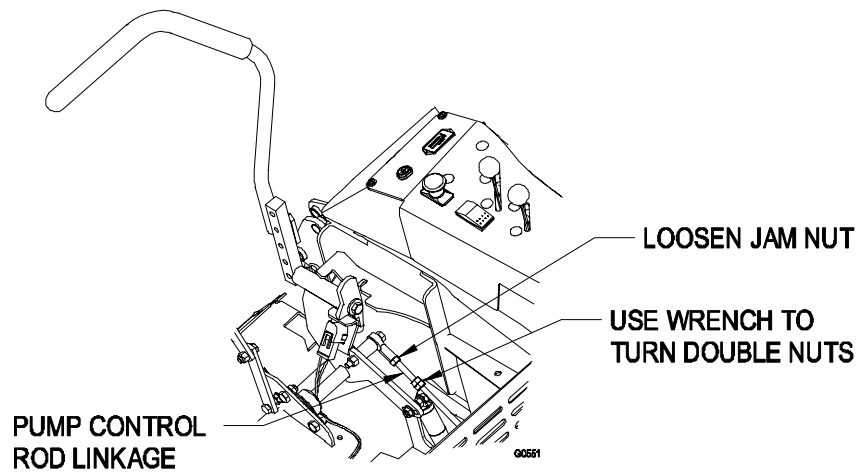

FIGURE 13
- f) To adjust each linkage, loosen the jam nut next the ball joint at the upper end of the linkage rod assembly. Then rotate the assembly using a wrench to turn the double nuts on the assembly. See Figure 13.